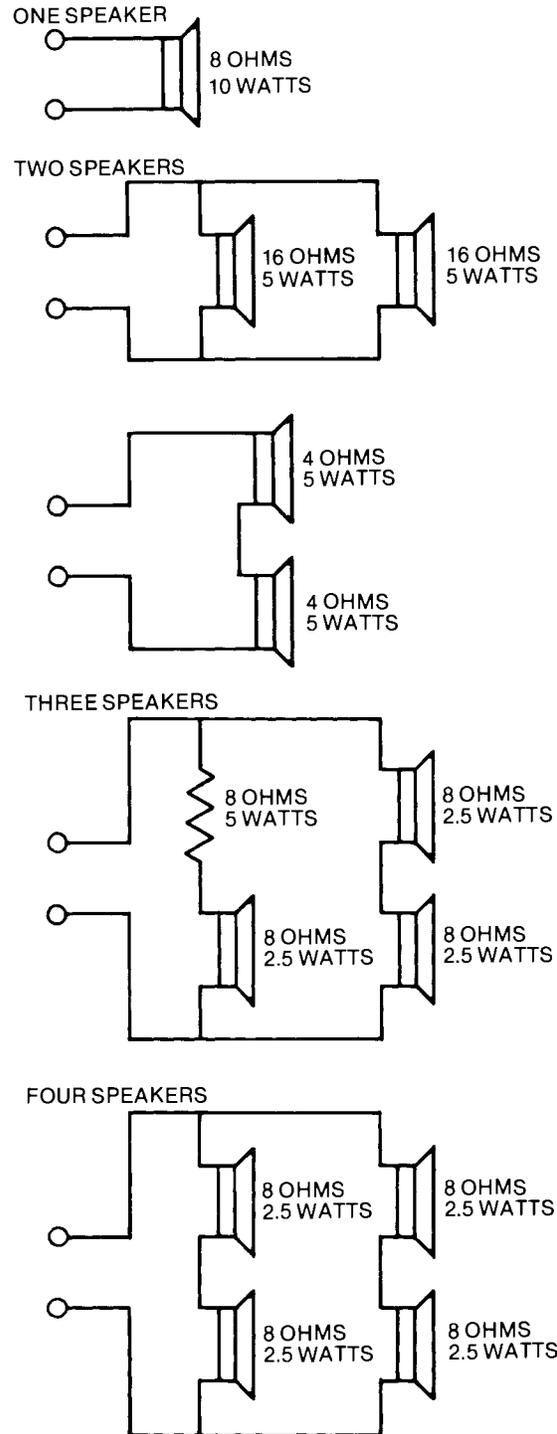

Fig. 5 — Optional Speaker Arrangements.
3.01 Mount the KT-363 on a wall, in a relay rack or on a backboard and make connections to the KT-363 connecting block as shown in Figure 2. The selected R () lead determines the intercom station number that accesses paging. Optional speaker arrangements are shown in Figure 5.
(Figure 5)
screw adjustment adjacent to the LED. Independent volume control at any speaker in the network can be attained by replacing the speaker network as shown in Fig. 5.